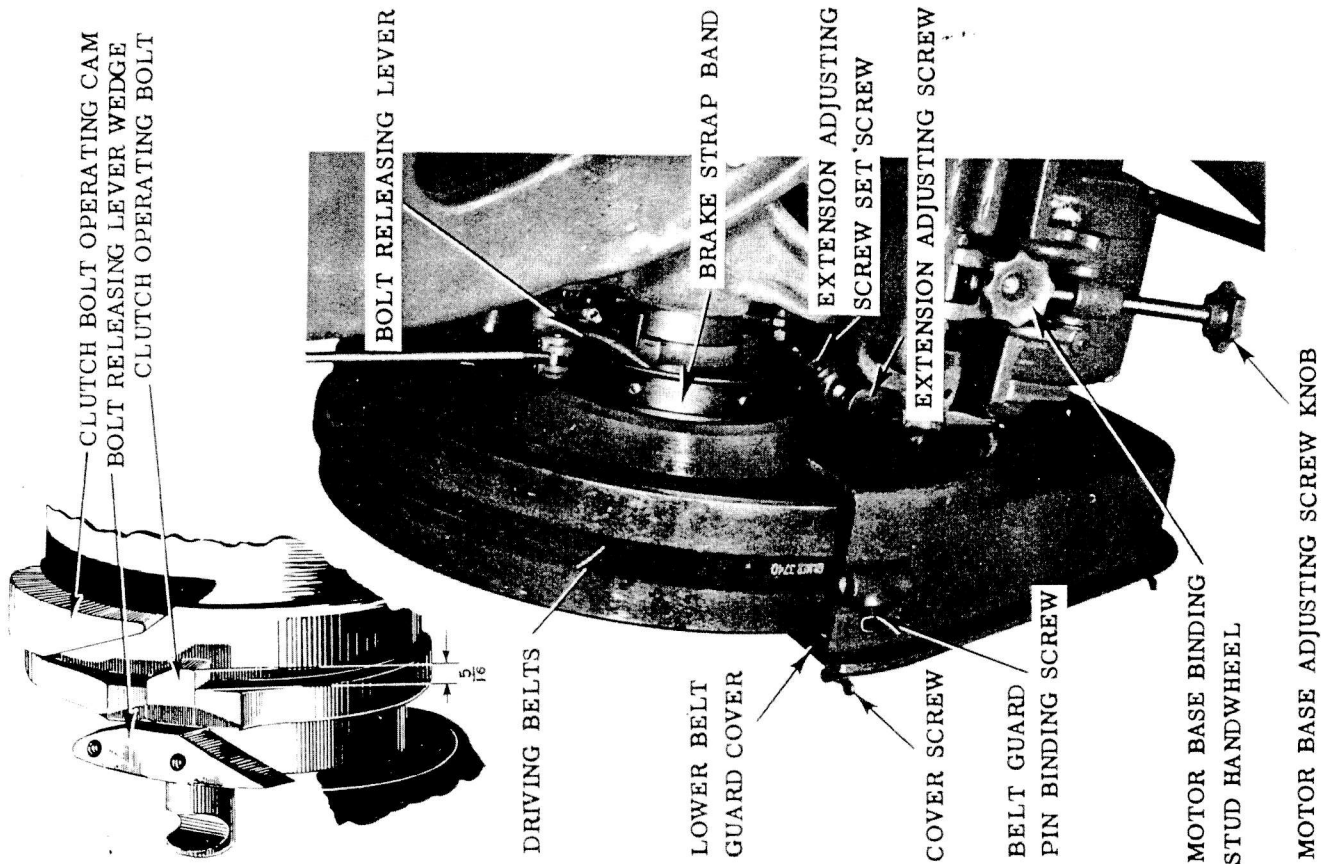

Figure 4 - Left Side of Machine - Partial View
#### C. Brake Strap. (See figure 4.)
With the proper braking adjustment the swinging beam stops at the uppermost point of its cycle. At this position, the flat portion of the clutch operating bolt engages the flat portion of the bolt releasing lever wedge and the upper leading edge of the clutch bolt is in line with the end of the clutch bolt operating cam (fig. 4).
#### E. Brake Catch. (See figures 4 and 5.)
#### G. Clutch. (See figures 4, 6, 7, and 16.)
13. Place the bolt spring in the clutch operating bolt and push the bolt forward through the slot in the brake drum until the bolt releasing lever wedge falls into place, holding the bolt in position (figures 4 and 7).